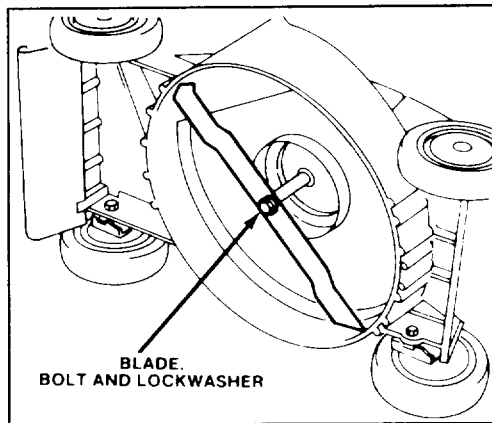

Figure 15
3. Tip mower on its left side (Fig. 15).
3. Tip mower on its left side (Fig. 15). Avoid rotating the blade because starting problems may result.
5. REMOVING BLADE—Grasp end of blade using a rag or thickly padded glove. Remove blade bolt, lockwasher and blade (Fig. 15).